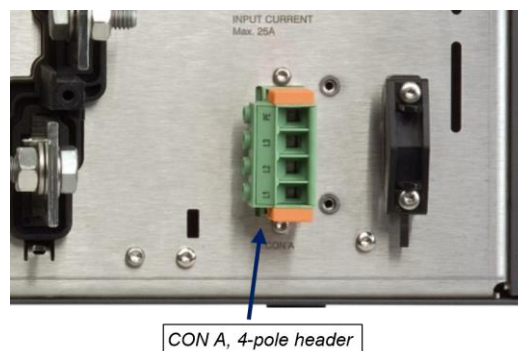

Figure 7.1: Insert the included 4-pole header in CON A for the connection of the AC power / Mains.
- Use the included 4-pole header with the markings L1, L2, L3 and PE for connecting the cable to the unit, see Figure 7.1. The mounting torque for the header terminals is 0.6 Nm.